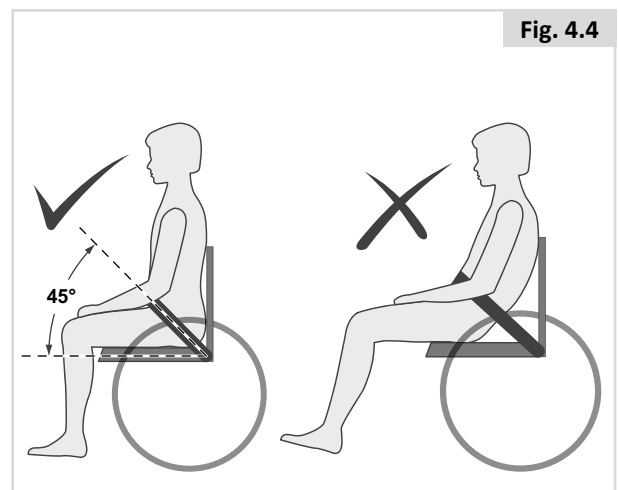

Fig. 4.4
- Generally, the lap strap should be fixed so that the straps sit at an angle of approximately 45° (Fig. 4.4), and when correctly adjusted should not allow user to slip down in the seat.